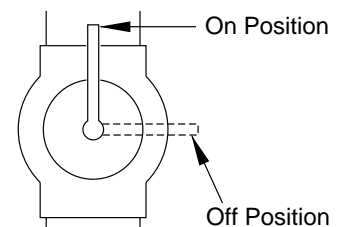

Figure 18 - Equipment Shutoff Valve
4. Turn equipment shutoff valve clockwise  to OFF position (see Figure 18).
5. Wait five (5) minutes to clear out any gas. Then smell for gas, including near the floor. If you smell gas, STOP! Follow "B" in the safety information, column 1. If you don't smell gas, go to next step.
6. Turn equipment shutoff valve counterclockwise  to ON position (see Figure 18).